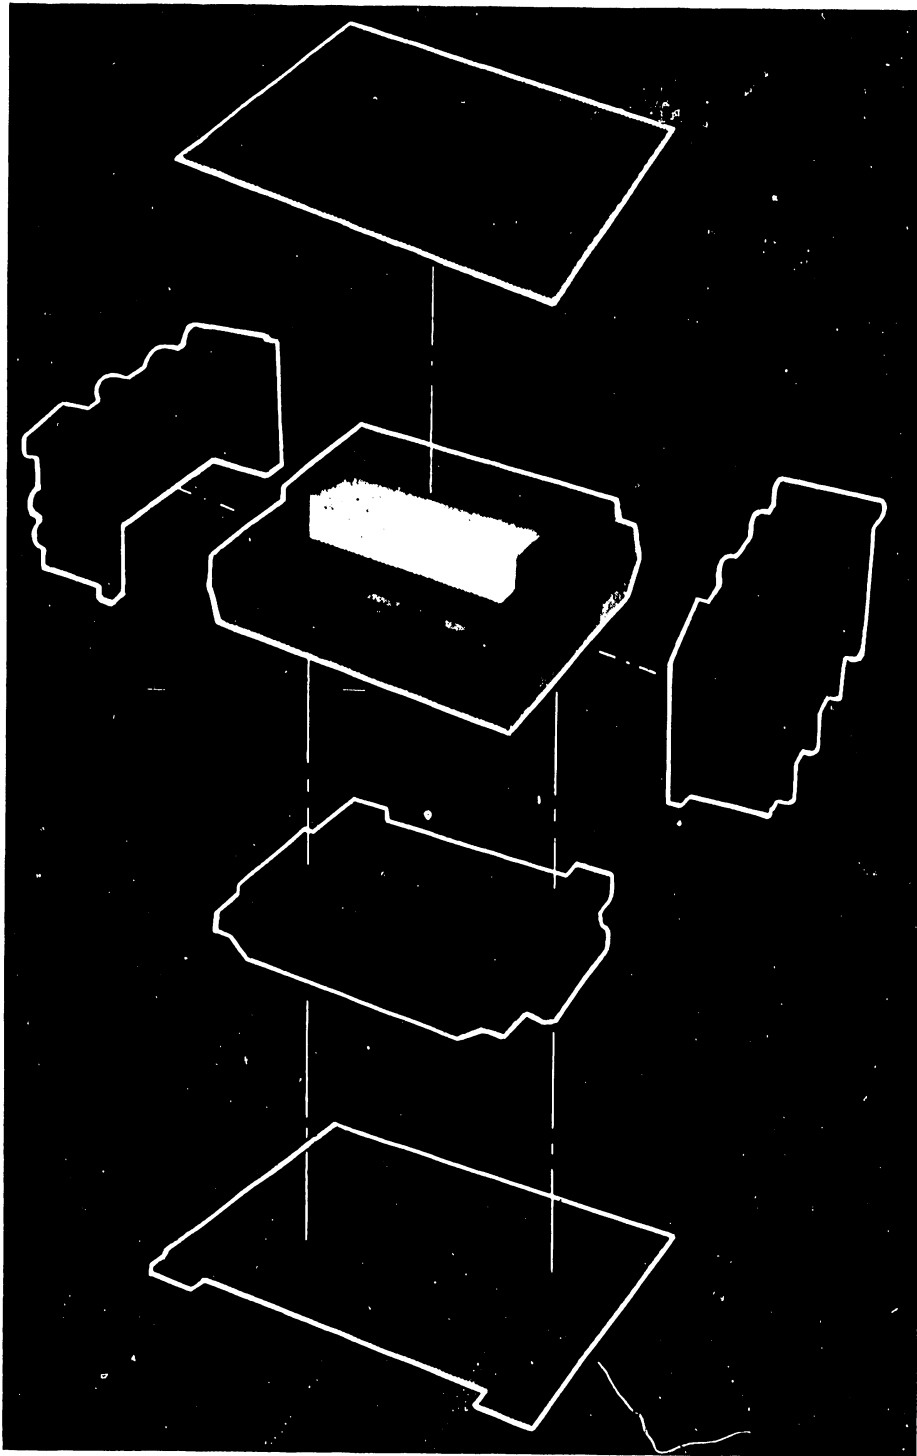

Figure 4-1 Packing Unpacking
1. Cut the packing straps and remove the printer from the box. Refer to Figure 4-1.
1. Place the plywood and styrofoam bases on a flat surface. Refer to Figure 4-1.